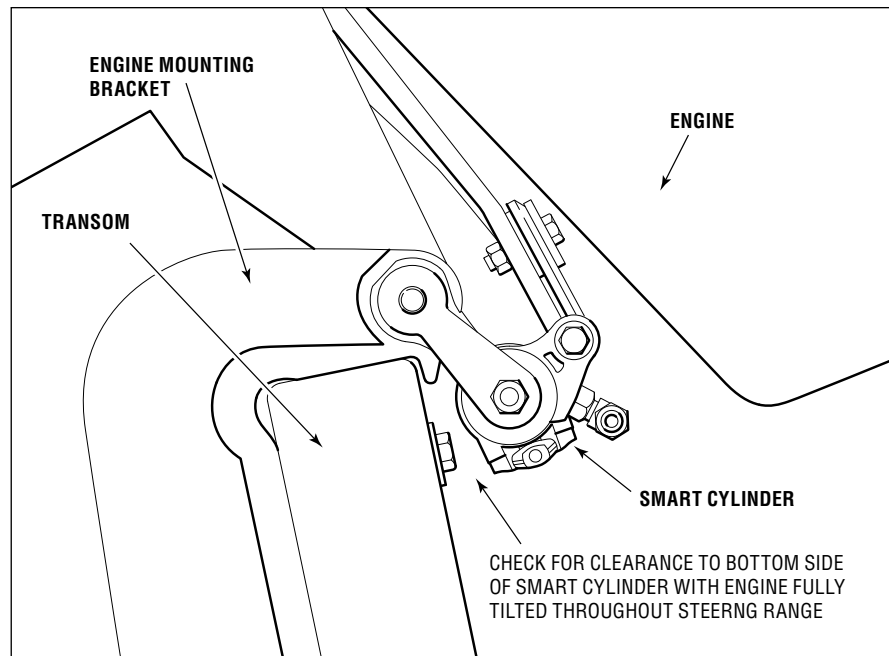
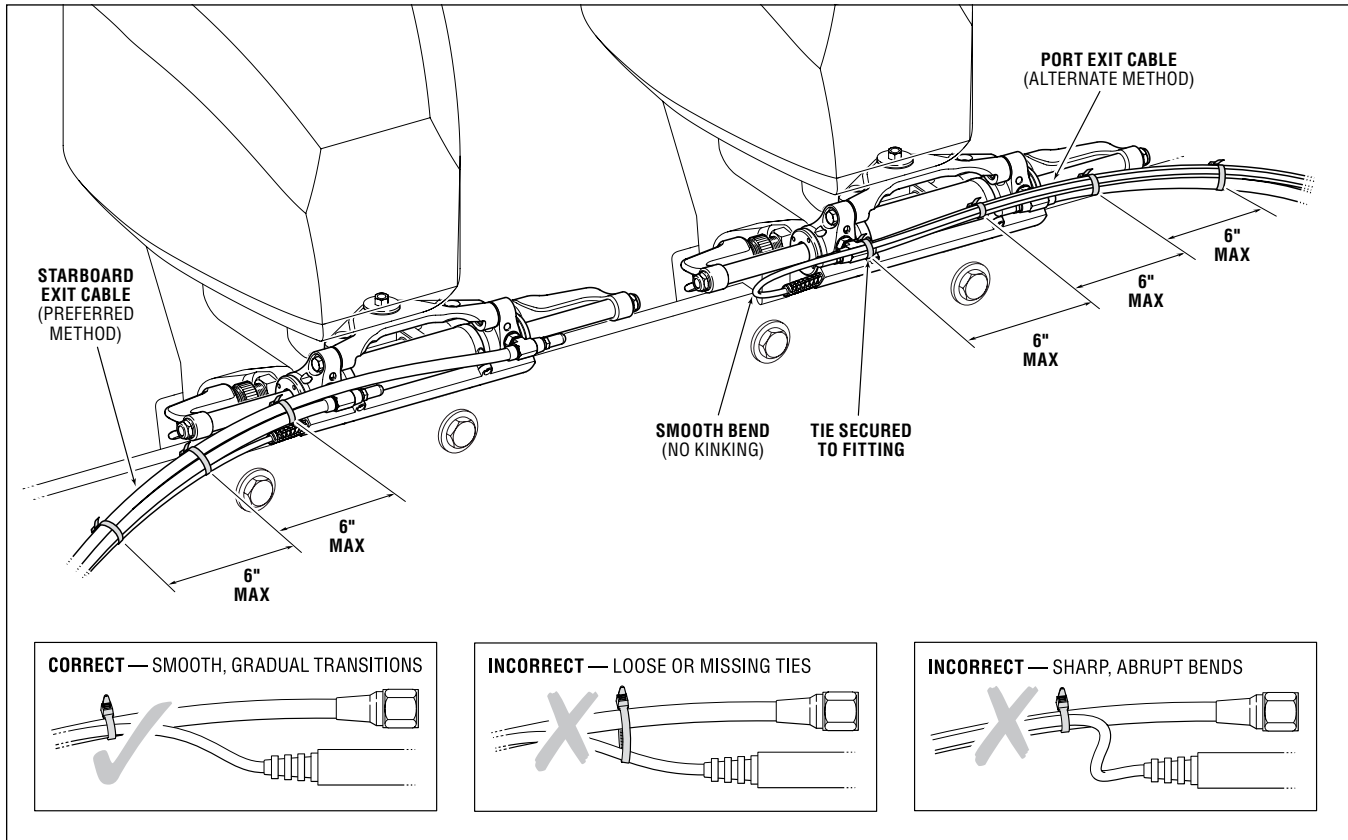

Figure 8-1. Engine side view when tilted.
Figure 8-2. Sensor cable and hose routing checks.
1. Interference Checks – Confirm that there is no interference between the steering cylinder(s), splashwell, outboard engine(s), tie bars, or any combination of these parts, by performing the steps below. For each step also check that the hoses and harnesses are moving freely with no rubbing or binding (see figure 8-1 and figure 8-2). Be sure to steer slowly while performing these checks.
2. RFU Harness – Confirm that the RFU harness is tied securely to the hoses with gradual bends as shown figure 8-2.